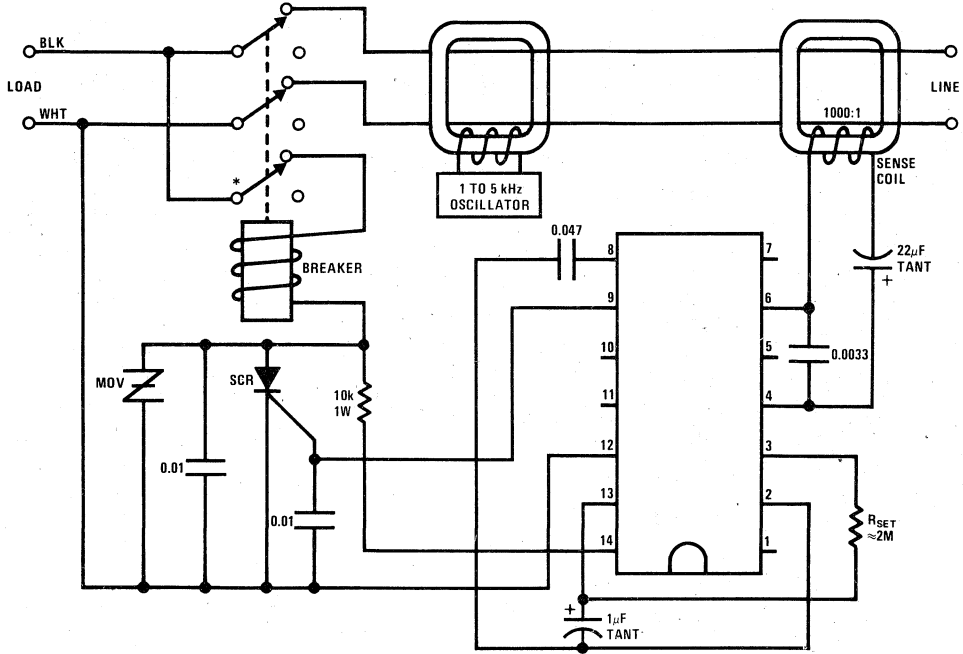

FIGURE 1. Grounded Neutral Detection Using External Oscillator
**typical applications** Figures 1, 2 and 3 show wall socket applications with reversible input wires and neutral ground detection.